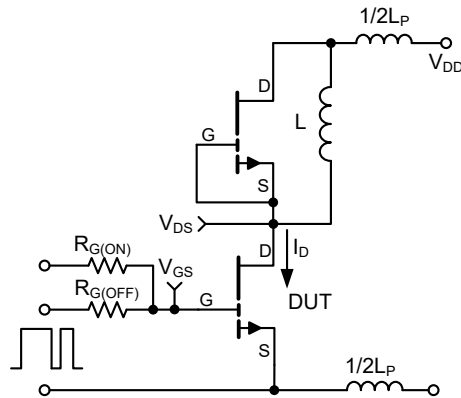

Figure 13: GS66516B Switching Loss Test Circuit
(7) L_P is the switching circuit parasitic inductance.
(8) See Figure 13 for switching test circuit.